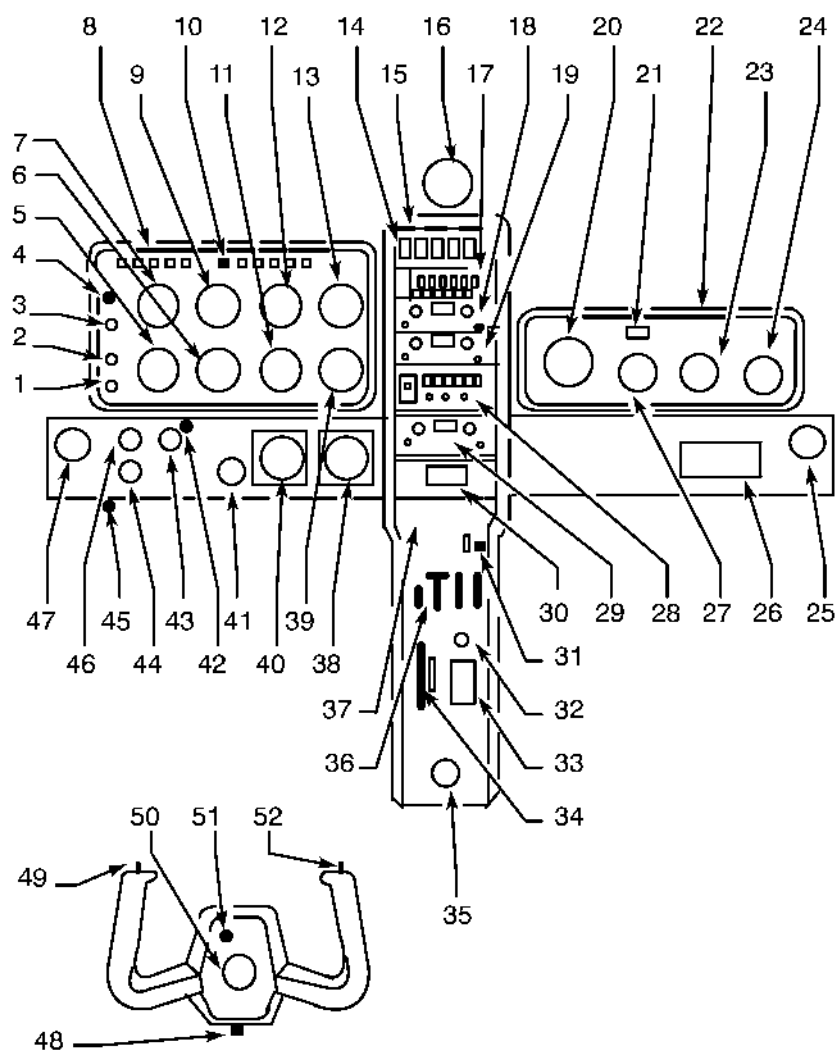

Figure 9.1.3 - EXAMPLE OF NARCO VERSION INSTRUMENT
- See Figure 9.1.3.
- Front overhead lights controlled by turning post lights and regulated by the "Emergency" control. See Figure 9.1.3.
- Front overhead lights controlled and regulated by the "Emergency" control. See Figure 9.1.3.